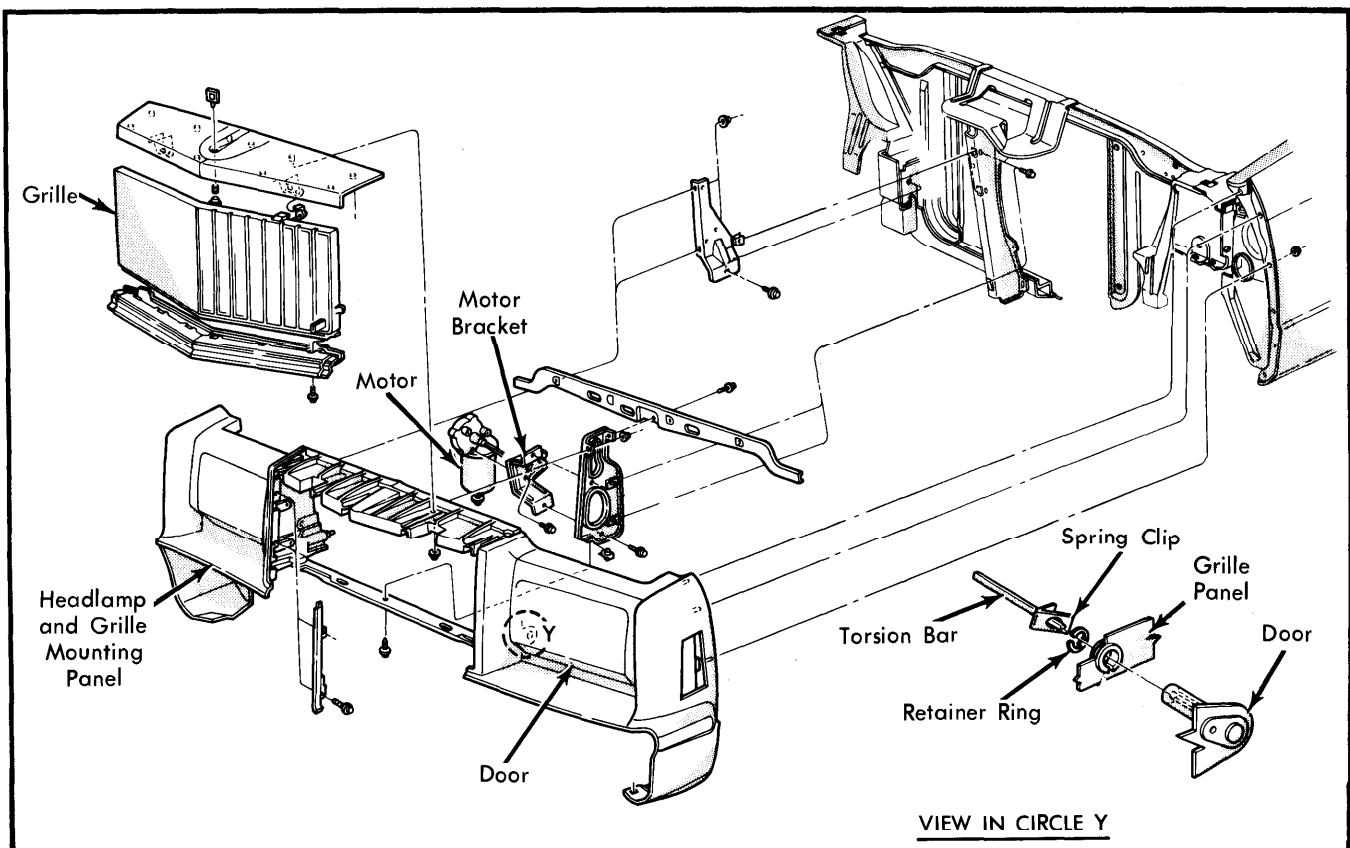

Fig. 1 Chrysler Headlight Door Assembly Shown
2) Remove torsion bar by pulling with one hand and moving headlight door with the other. Disconnect headlight wiring and remove inner sealed beam unit. Remove retainer ring from crank. See Fig. 1.